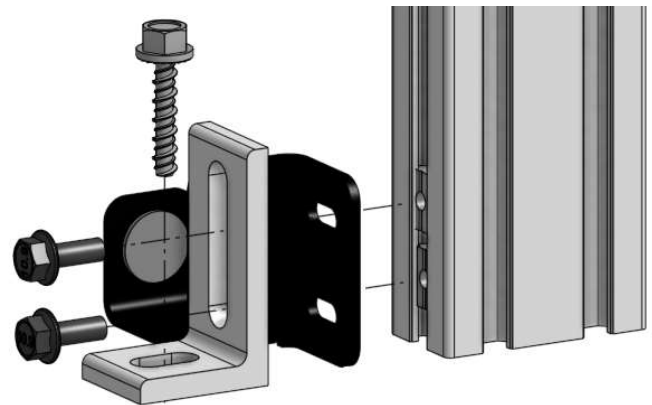

Figure 4. Sandwich the door guide bracket between the slotted corner bracket and frame.
- a. **NOTE:** If mounting the 1.5" x 2.5" slotted corner bracket to the inside of the frame, replace the M6x14mm door guide mounting screws with the included M6x16mm screws, sandwiching the door guide bracket between the slotted corner bracket and the frame (see *Figure 4*).